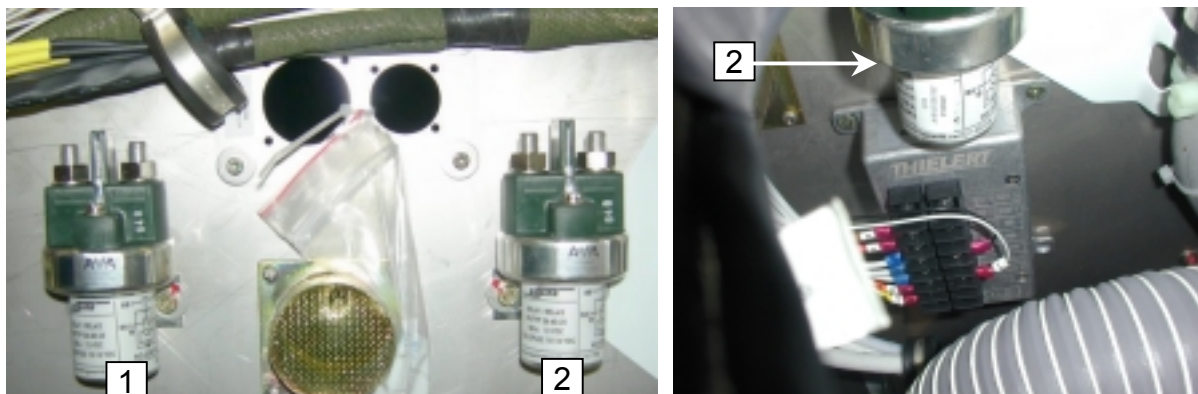

Fig. 24-2f.
- Alternator Relay (located on the firewall) Fig. 24-2f, item 1.
- Glow Relay (located on the firewall) Fig. 24-2f, item 2.
- (1) Battery Switch "ON"
- (2) CED illuminates (without data)
- (3) Fuel Pump functional (switch Fuel Pump)
- (4) => Battery Relay OK
- (5) Battery Switch "OFF"